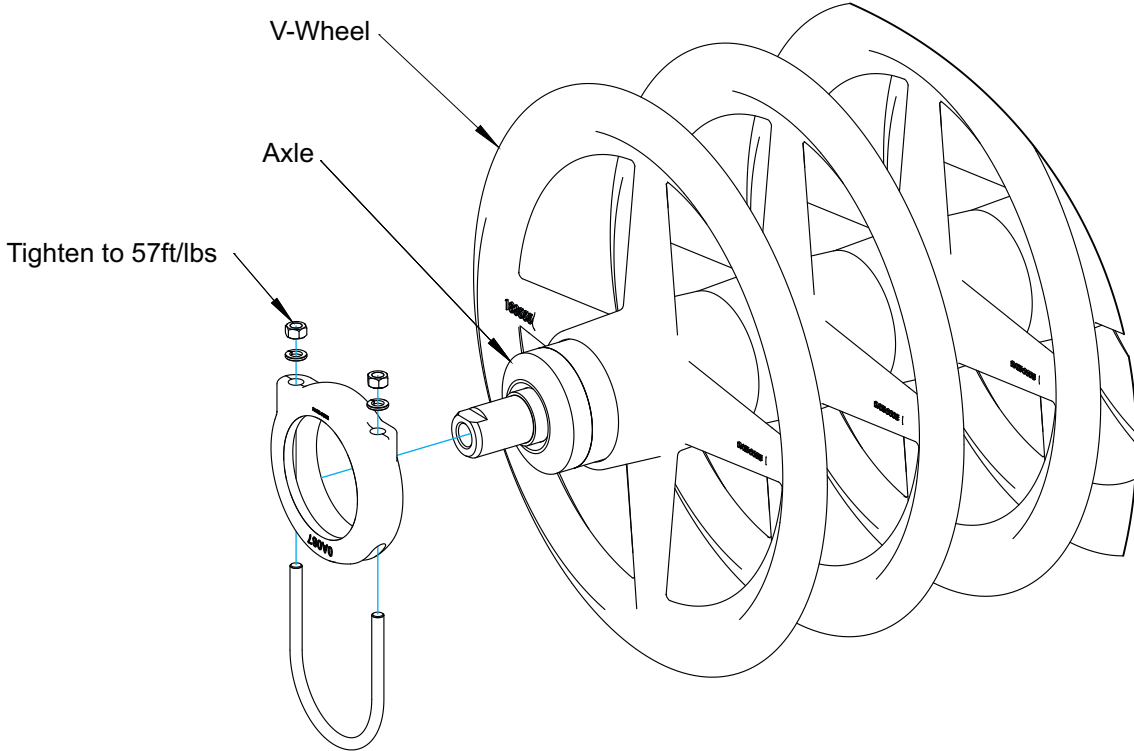

Figure 4-5: Clamp Tightening (2 of 2)
4. Tighten the U-bolt evenly to 57 Ft/Lbs. See **Figure 4-5.**